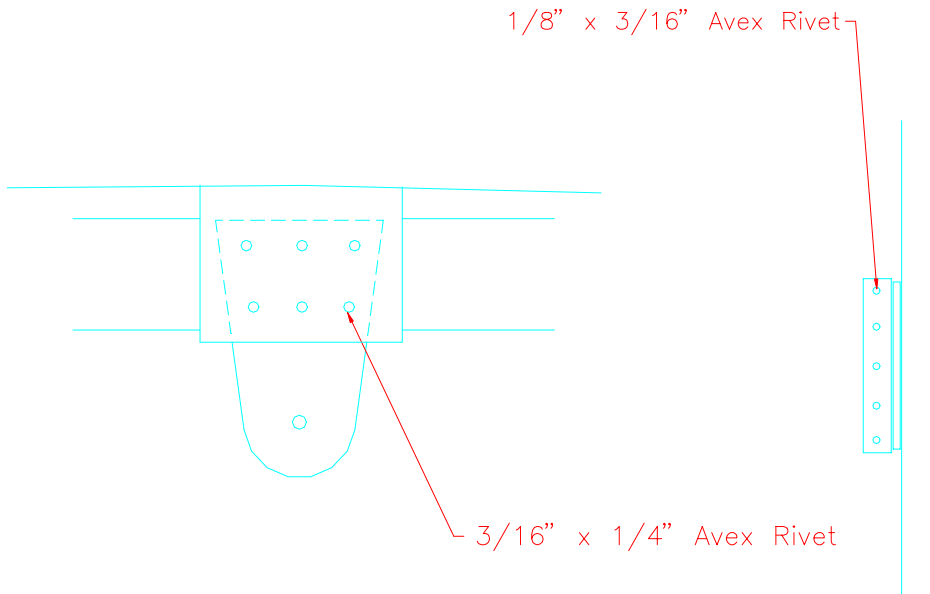

Figure 15.8.13
27) Chromate mating surfaces and rivet .032 bracket, hanger and channel together with 3/16" avex rivets (RV-1613). Figure 15.8.13.
28) Rivet the bracket to the roof with 1/8" avex rivets (RV-1410). Rivet from outside the roof. Figure 15.8.13.